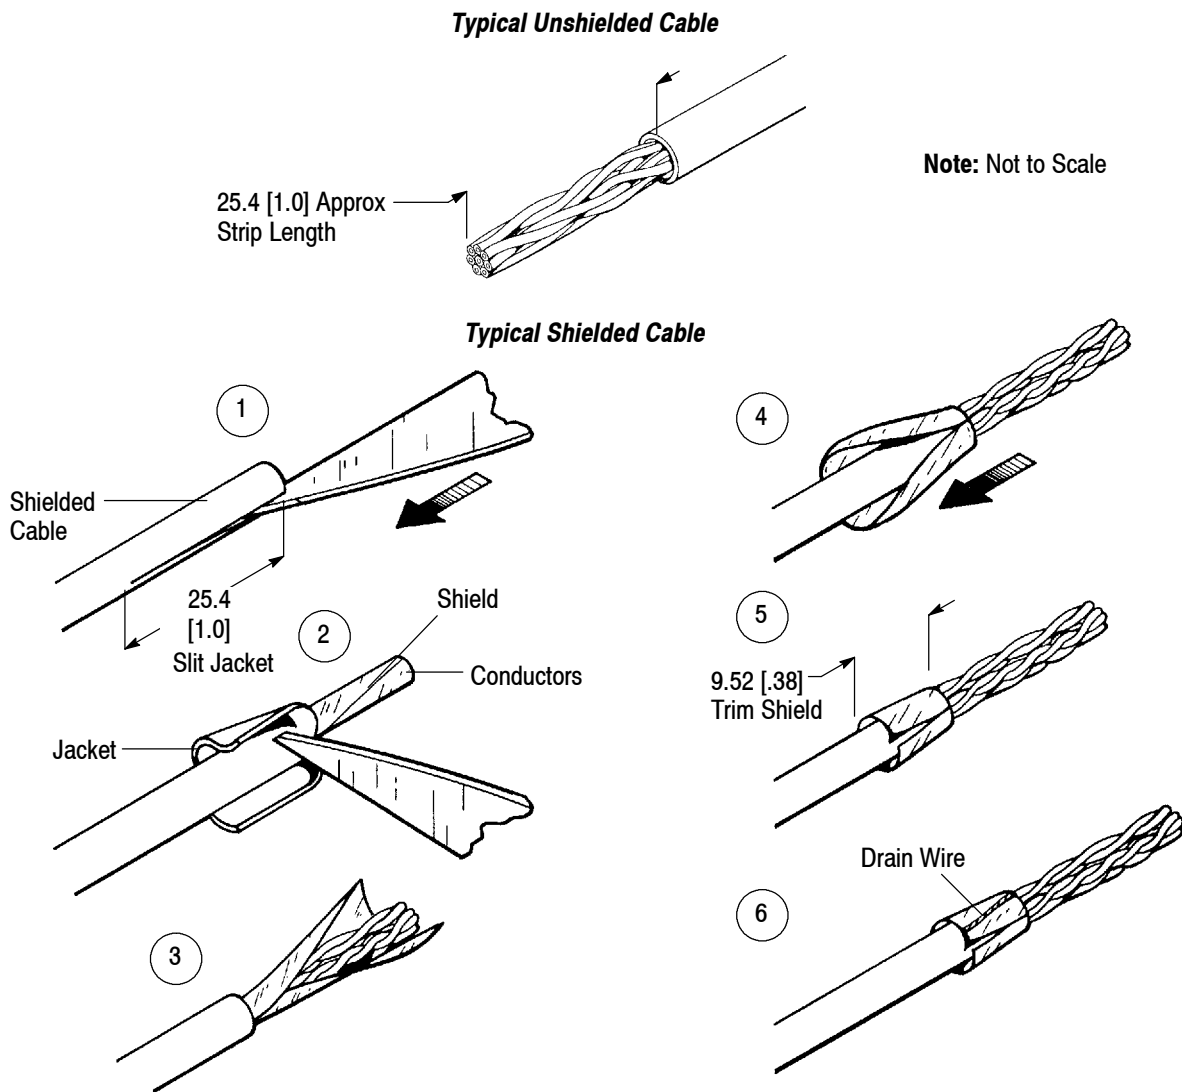

Figure 2
- Corrected strip length for unshielded cable in Figure 2
Proper strip length is necessary to properly insert unshielded cable into the modular plugs. The strip length for the cable is given in Figure 2.
Shielded cable must be prepared according to the following. Refer to Figure 2: